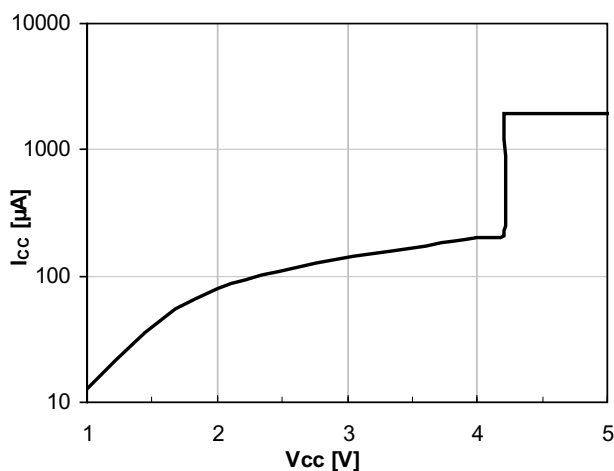

Figure 5.  $V_{CC}$  Supply Current (no load)
**$V_{CC}$  Supply Current** of the device is shown across the entire  $V_{CC}$  range in Figure 5.